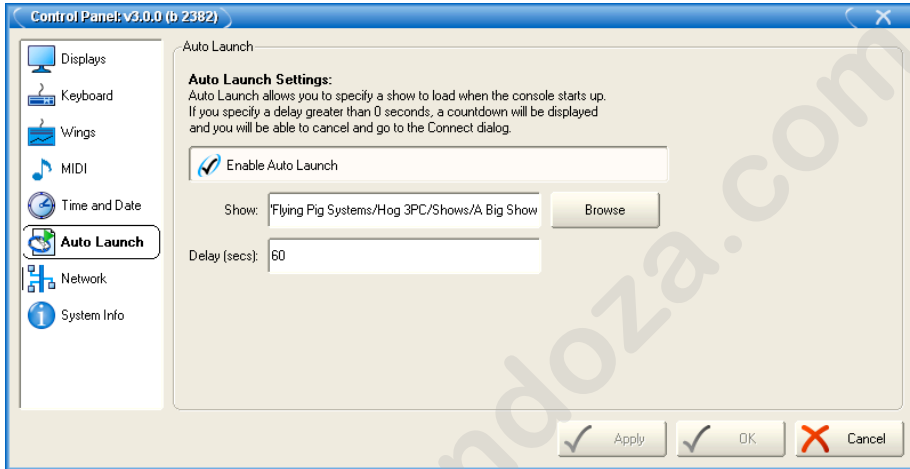

Figure 13.18. The Auto Launch pane of the Control Panel
1. Setup → Control Panel → Auto Launch : see *Figure 13.18, “The Auto Launch pane of the Control Panel”*.